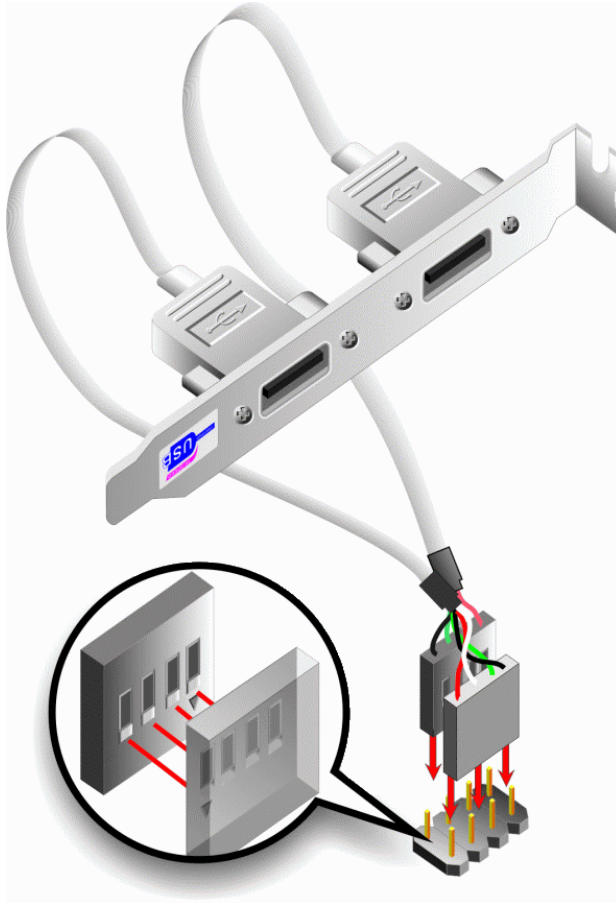

Figure 5-11: Dual USB Cable Connection
Step 3: Insert the cable connectors. Once the cable connectors are properly aligned with the USB connectors on the 3308460, connect the cable connectors to the on-board connectors. See **Figure 5-11**.